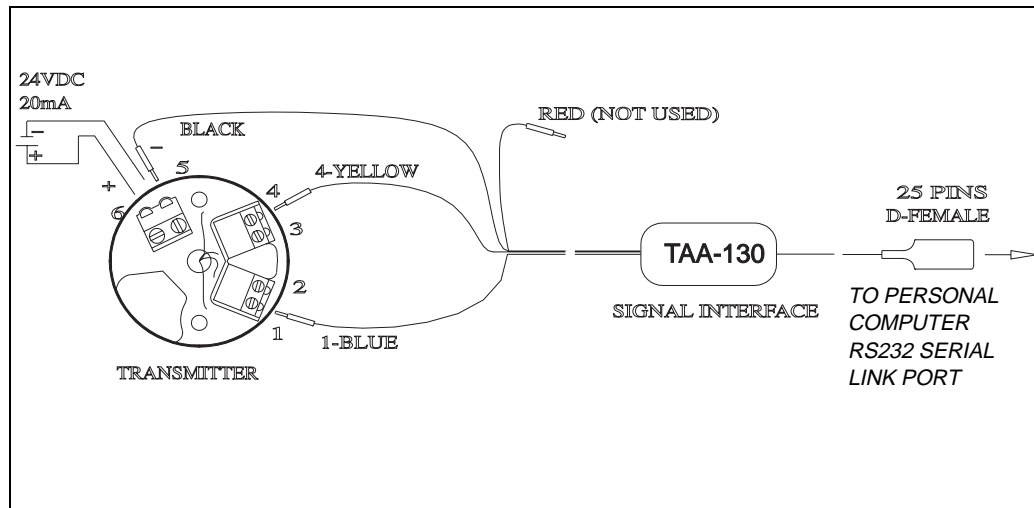

Fig. 2: Optional transmitter wiring to PC, with external 24 Vdc power supply
See Fig. 2 for optional wiring instructions, to be used when PC cannot supply sufficient power.
**Warning:** when external 24 Vdc power supply wiring is used (see Fig. 2), in order to execute a Transmit or Receive command, the "Enter" for these tasks must be given within 5 seconds from a transmitter power-up; a switch on the positive DC line is suggested for this purpose .